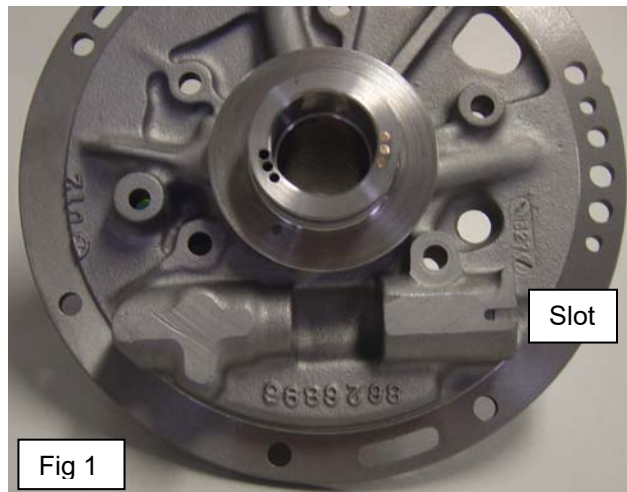

Fig 1
2. Mill, or grind, a slot into the boost valve bore of the pump casting. The roll pin in the boost valve bore plug will engage into this slot and retain the bore plug from turning when adjusting the spring tension (Fig 1.)